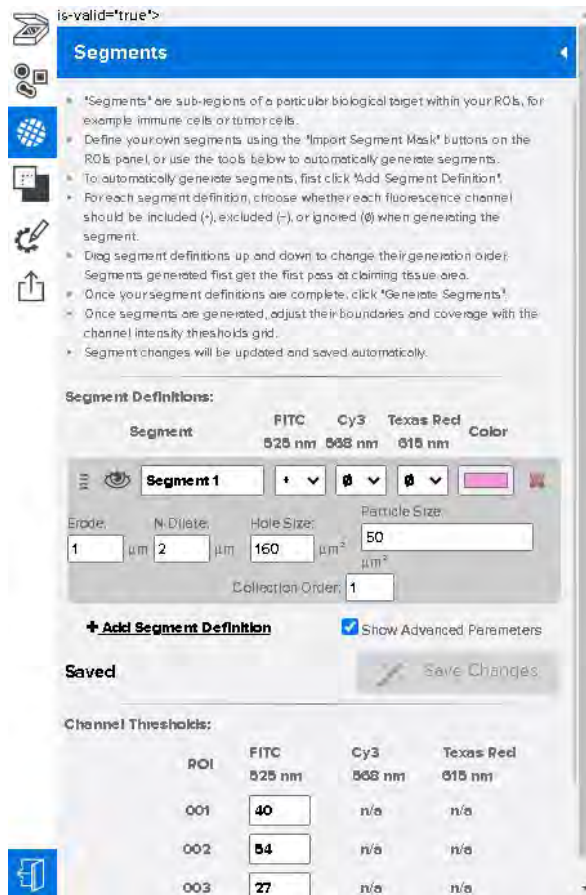

Figure 34: Scan Workspace segmentation menu
1. Select **+Add Segment Definition** one time to establish a single definition rule. One gray Segment Definition box will appear (see Figure 34).